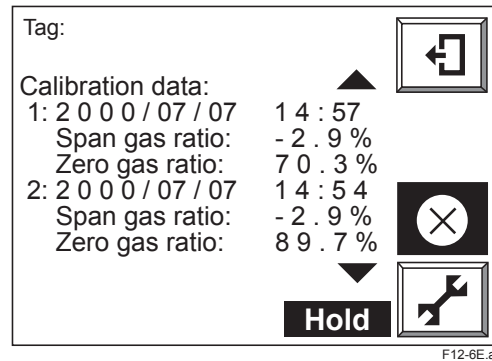

Figure 12.6 Calibration History
- (4) Check whether the deterioration of or damage to the sensor assembly that caused the alarm has occurred suddenly during the current calibration in the following procedure:
- b. Use the [Page Scroll] key to check Calibration data (Figure 12.6). The span and zero correction ratios of the last ten calibration can be checked here. By checking these data, whether the sensor deterioration has occurred suddenly or gradually can be determined.